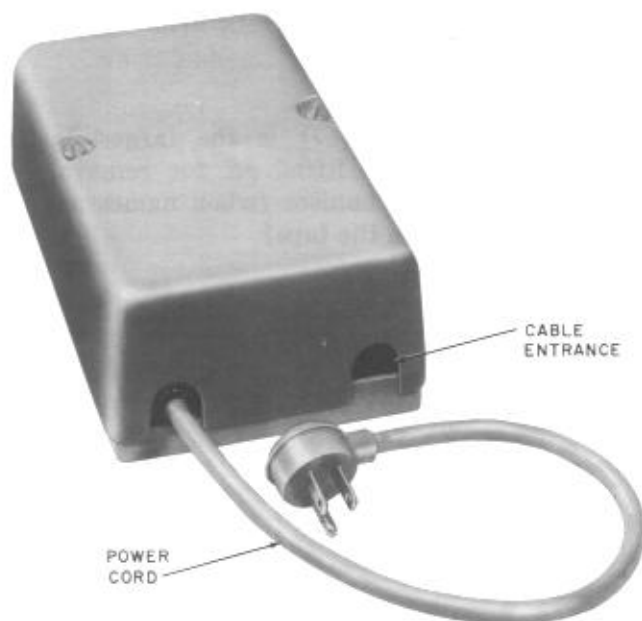

Fig. 4 — 21A Power Unit
2.10 The 51A dial is powered by a 21A1 power unit (Fig. 4). This power unit is not furnished with this set and must be ordered separately.